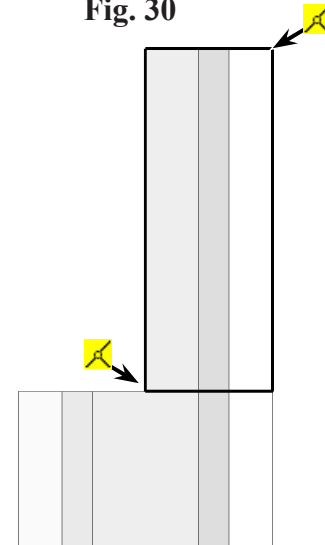

Fig. 32
Step 5. Sketch **corner rectangle coincident**  from cut left corner to top right corner, **Fig. 32**.